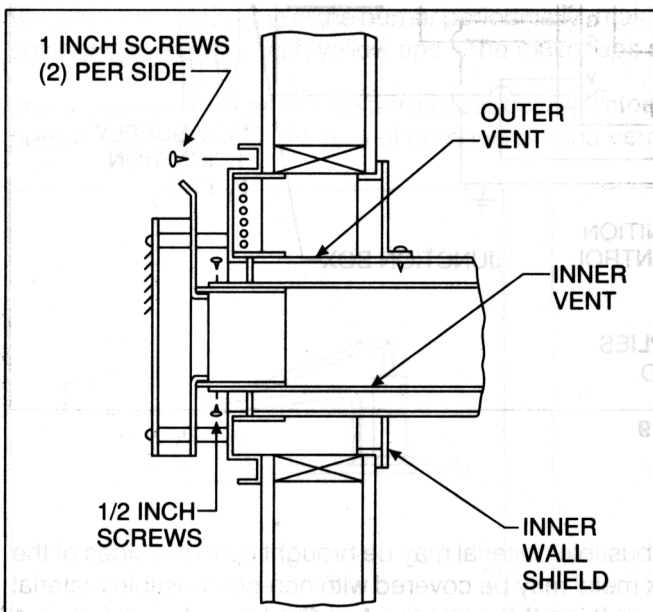

Figure 7
The last section of vent will require cutting, depending on the wall thickness and appliance location. The end of the vent must penetrate the exterior wall. Cut the inner and outer sections so the pipe extends past the wall by 1" on the outer pipe and 2 1/2" on the inner pipe. See Figure 7. Horizontal runs will require the use of (1) Vent Support (VS4) for every 3' of vent.
To install the cap, slide the cap pipe sections into the vent pipe. Secure the cap flush to the wall using (8) 1" fasteners provided. Seal the cap to the wall with a mastic such as silicone caulking. Fasten the inner vent with (3) 1/2" screws to secure the vent. See Figure 7.